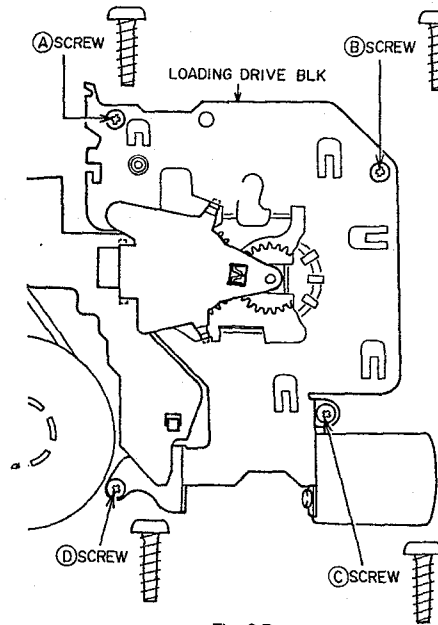

Fig. 3-7
- 2) Unhook the five wires from each tab. Two wires from the SENSOR (S), two wires from the LOADING MOTOR and one wire from the REC SAFETY SWITCH.
- 3) Remove the (A), (B), (C) and (D) screws, then remove the LOADING DRIVE BLK as shown in Fig. 3-7.